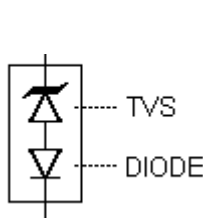
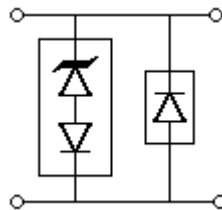

FIGURE 2
FIGURE 3
\* TVS devices are not typically used for dc power dissipation and are instead operated at ≤ VWM except for transients that briefly drive the device into avalanche breakdown (VBR to VC region) of the TVS element. Also see Figures 3 and 4 for further protection details in rated peak power for unidirectional and bidirectional configurations respectively.
The TVS low capacitance device configuration is shown in Figure 2. As a further option for unidirectional applications, an additional low capacitance rectifier diode may be used in parallel in the same polarity direction as the TVS as shown in Figure 3. In applications where random high voltage transients occur, this will prevent reverse transients from damaging the internal low capacitance rectifier diode and also provide a low voltage conducting direction. The added rectifier diode should be of similar low capacitance and also have a higher reverse voltage rating than the TVS clamping voltage  $V_C$ . The Microsemi recommended rectifier part number is the "ELCR80" for the application in Figure 5. If using two (2) low capacitance TVS devices in anti-parallel for bidirectional applications, this added protective feature for both directions (including the reverse of each rectifier diode) is also provided. The unidirectional and bidirectional configurations in Figure 3 and 4 will both result in twice the capacitance of Figure 2.